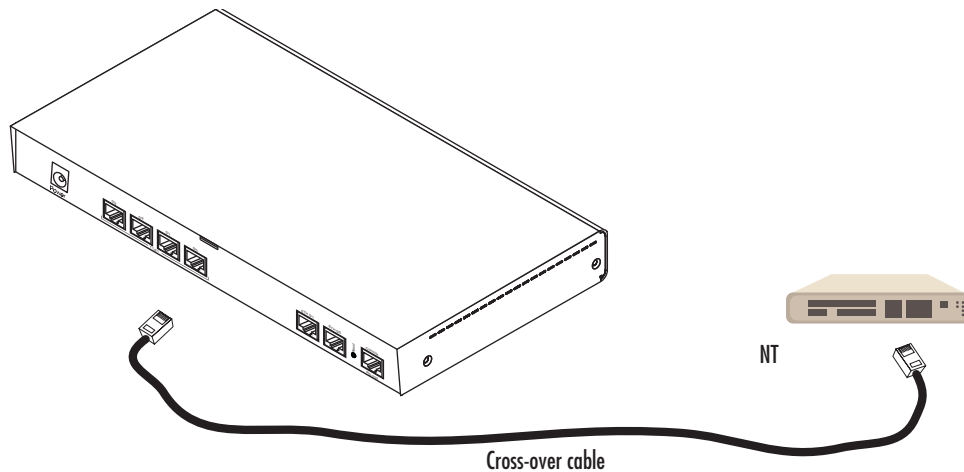

Figure 14. Connecting a T1 PRI port to an NT device
The T1 PRI is usually connected to a PBX or switch—local exchange (LE). Type and pin outs of these devices vary depending on the manufacturer. In most cases, a straight-through RJ-45 to RJ-45 can be used to connect the PRI with a PBX. A cross-over cable is required to connect to an NT device, as illustrated in figure 14 on page 57.